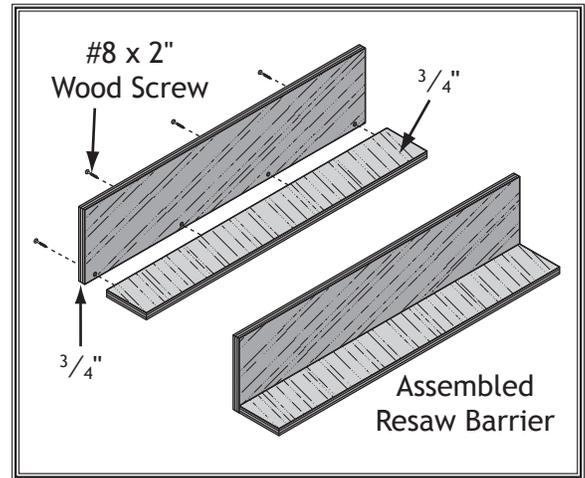

Figure 76. Resaw barrier.
3. Glue end of 3" board, then clamp boards at a 90° angle with larger board in vertical position, as shown in **Figure 76**, and fasten them together with wood screws.